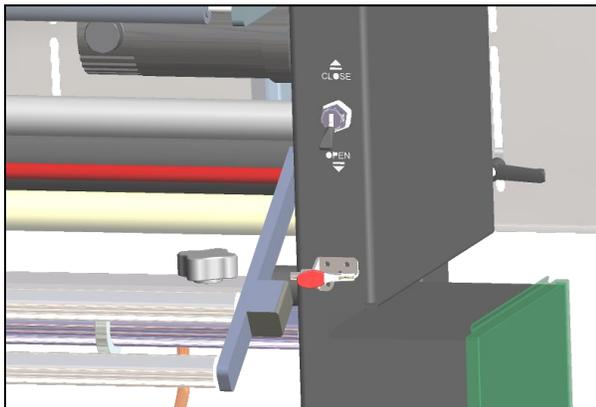

Figure 2-4B. Toggle Switch & Dancer Lock.
1. To begin threading the bags through the MAX bagger, push the Toggle Switch to the OPEN position. Engage the Dancer Lock by moving the locking pin into dancer arm. **Figure 2-4B.**